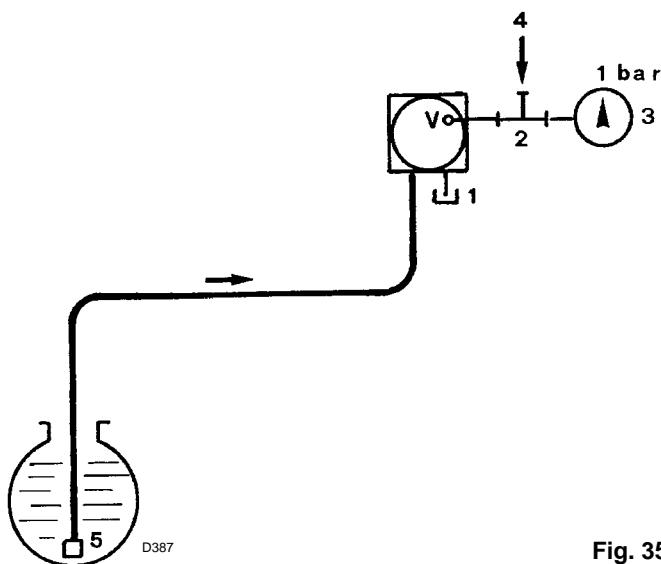

Fig. 35
**Gas oil fuel supply line (Fig. 35)**
If the previous checks have suggested that air may be entering the circuit somewhere, pressurize the circuit piping. Plug the pump's return line connector 1) (Fig. 35) after removing the hose. Install a union T 2) (Fig. 35) on the vacuum meter attachment. On one branch of the T install the pressure gauge 3) and on the other branch 4) inject air at a pressure of 1 bar. After the injection of air has stopped, the gauge reading should remain stable. The suction piping must be equipped with a foot valve 5).